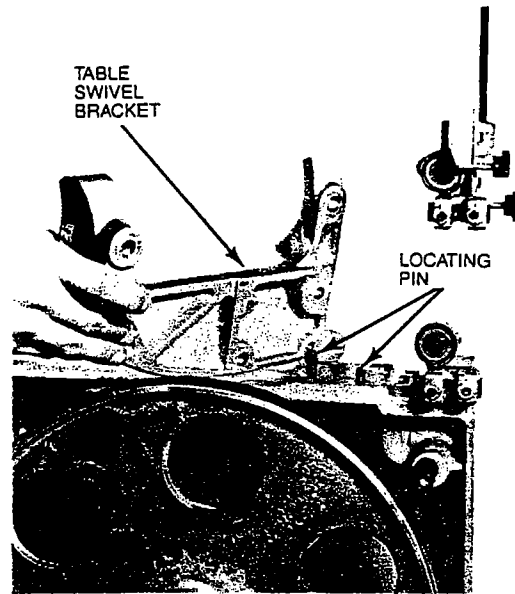

FIGURE 11
1. Position table swivel bracket onto main frame, matching two locating pins to holes (Figure 11).